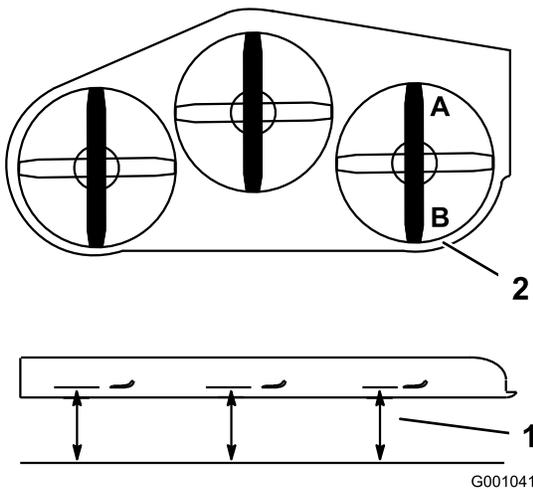

Figure 75
2. Position 1 blade front-to-rear. Measure at **A** and **B** locations from a level surface to the cutting edge of the blade tips (Figure 75).